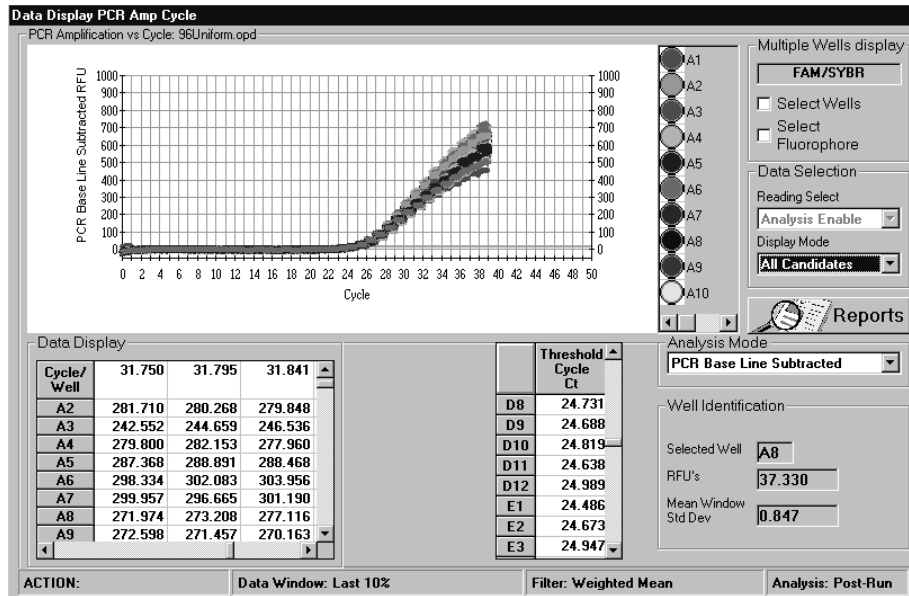
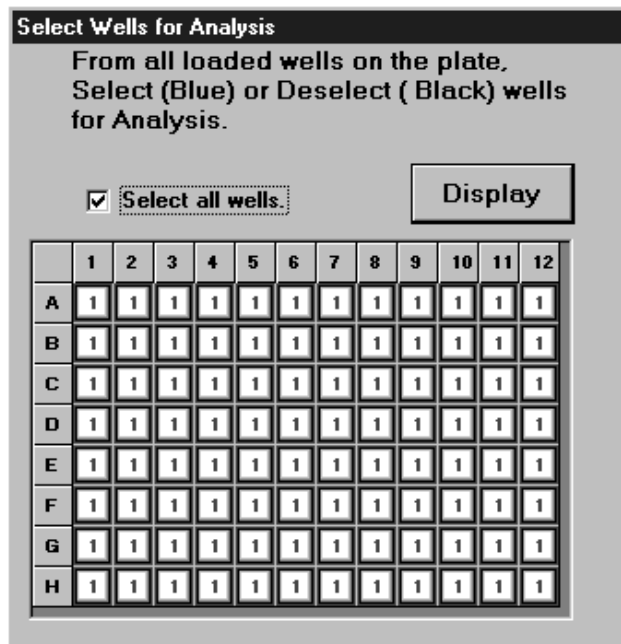

Fig.7.13. All Candidates Display Mode.
Fig. 7.17. Select Wells Window.
5. The PCR Amp Cycle plot will be displayed in the All Candidates mode, showing every single data point for each well. (Figure 7.13)
1. In the PCR Quantification window in the upper right hand corner (see Figure 7.13), click Select Wells and a dialog box will open up. (Figure 7.17) The check box acts as a toggle, bringing up or closing the Select Wells dialog box.